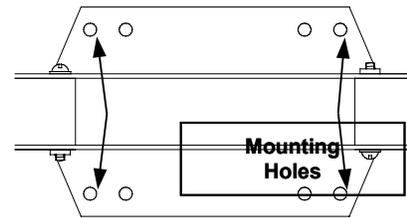

Figure G.5-7: Blinder Mounting Holes
- 5) Align the Horn Blinder with the outer holes over the bezel retaining holes {Figure G.5-7}.